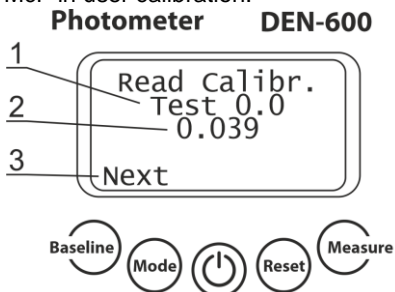

Figure 4. Saved user calibration data.
- 5.7 **Saved user calibration data observation (figure 4).** Press **Mode** key in user calibration regime, then press Next (**Baseline** key) to observe calibrated points and Abs result equivalent to McF in user calibration.